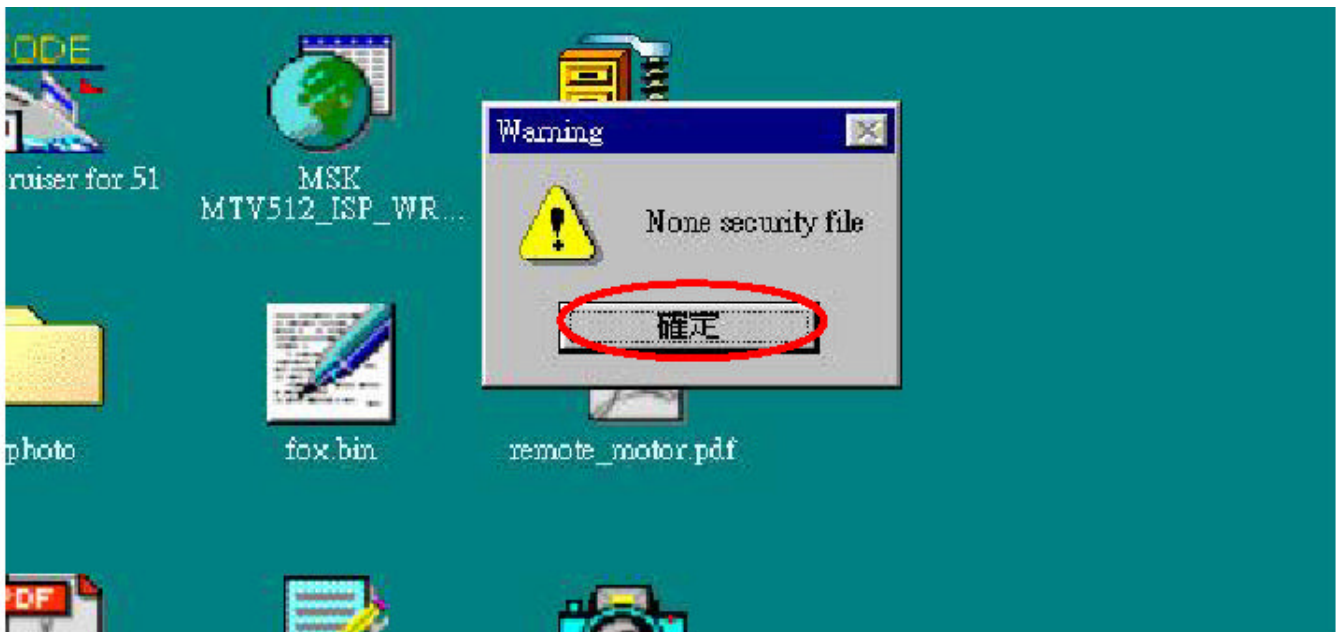

Fig 2.2
2.2 Security file is a key to use ISP function , press “ 確定 ” button , see Fig 2.2 .